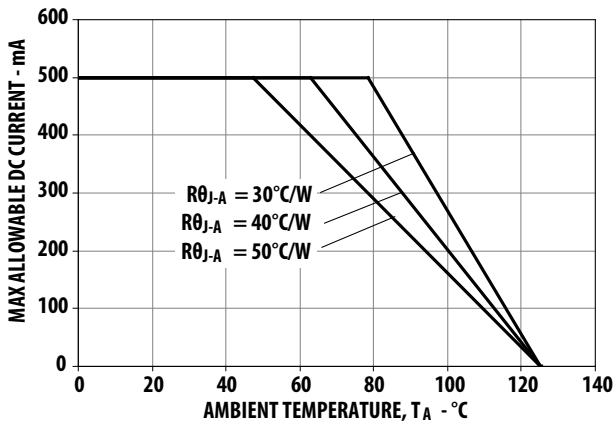
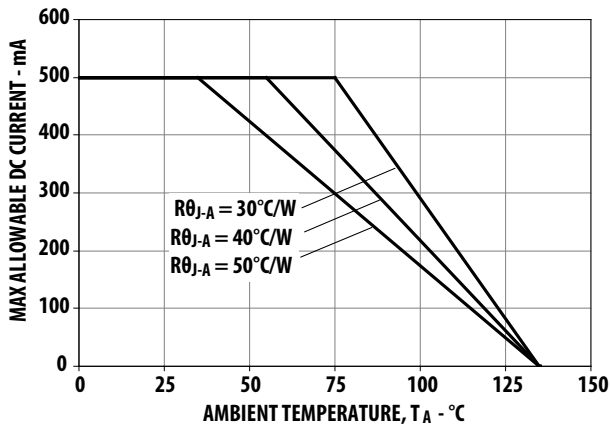

Figure 10. Maximum Forward Current vs. Ambient Temperature. Derated based on T_{JMAX} = 125°C, R_{θJ-A} = 30°C/W, 40°C/W and 50°C/W.
Figure 22. Maximum Forward Current vs. Ambient Temperature.
- Derate linearly based on Figure 10 for AlInGaP and Figure 22 for InGaN.